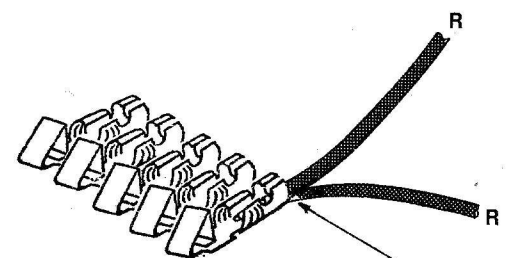
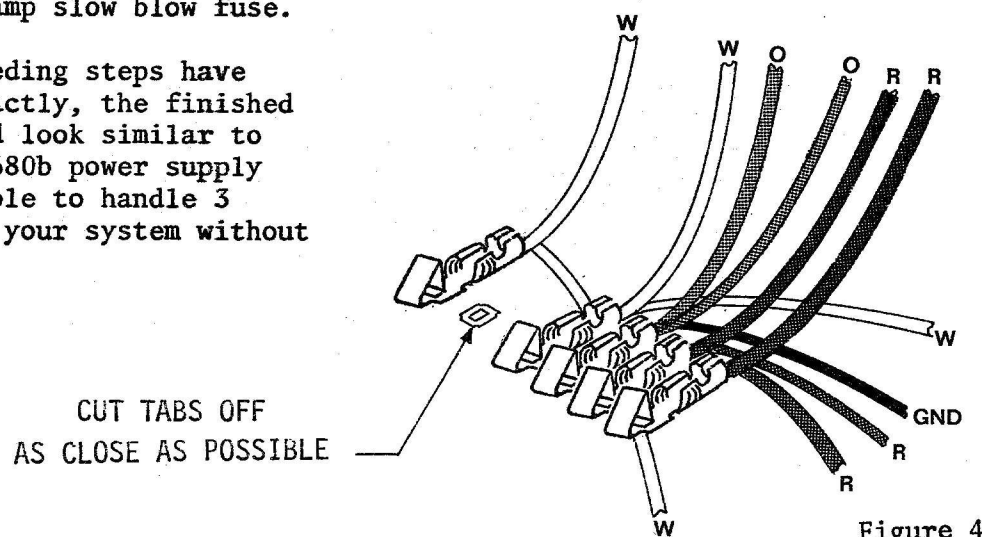

Figure 3
Figure 4
8. Now crimp the terminal pin on the wire and use a little solder to insure a good connection (see Figure 3). Repeat steps 7 and 8 with the remaining secondary wires making sure that the two knotted white wires are tied to each other and also that an extra 8" wire is tied to the two orange wires before crimping the terminal pin on. The third wire connected to the two orange wires is to insure a good chassis ground for the system. After all the secondary wires have been crimped on, it should resemble Figure 4.